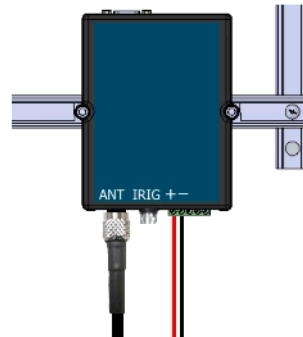

Figure 13 Connect SEL-2401 Power Wires
Step 18. Connect the shorter black and red wires to the **-** and **+ POWER** terminals on the SEL-2401, respectively. See *Figure 13*.